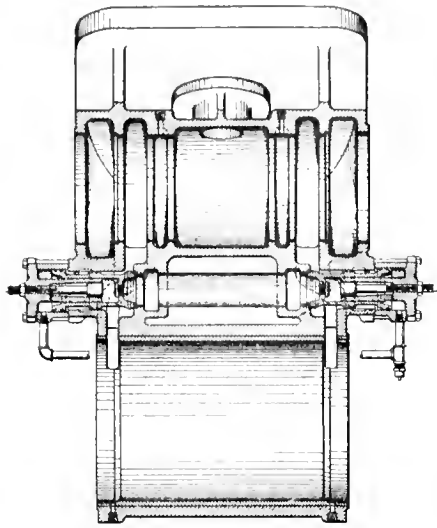
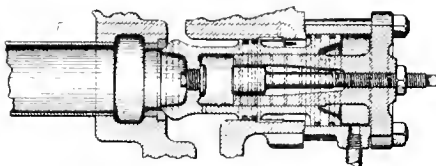
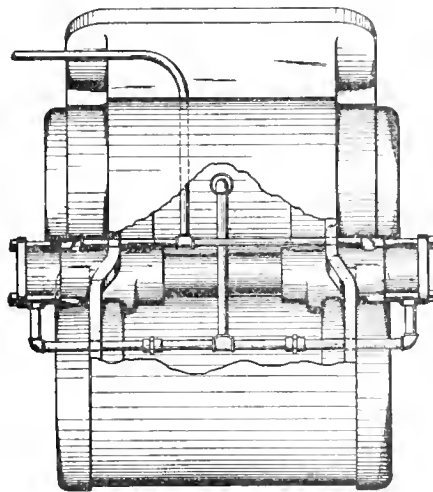

FIG. 1.
FIG. 2.
FIG. 3.
been jointly invented by Mr. H. C. Manchester, Superintendent of Motor Power and engineer of the Lackawanna, and Mr. S. S. Riegel, Mechanical Engineer of the same road. As shown in the accompanying illustrations Fig. 1 is a vertical section through a locomotive engine cylinder and steam chest, Fig. 2 a central section of one of the improved valve mechanisms, and Fig. 3 a side elevation of the engine cylinder and valve mechanism, showing the pipe connections. The invention has for its principal object to provide an improved valve mechanism for automatically opening communication through a by-pass valve between the opposite ends of the engine cylinder when the locomotive is drifting, or running when the throttle is closed, thereby permitting free passage of the contents of the cylinder from one end to the other, and maintaining the piston substantially balanced as to pressure upon its opposite sides in all positions.
to the opposing pressures of the engine valve steam chest, and when the throttle is open the pressure from the steam chest holds the by-pass valve in the closed position, but when the throttle is closed, and the pressure from the steam chest falls, the opposing boiler pressure opens the by-pass valve, and admits a limited quantity of live steam into the cylinders. It will be readily noted that when the locomotive is running the steam admitted through the throttle to the steam chest also passes through the central pipe, as shown in Fig. 3, and acting on the larger annular area of piston head holds the valve closed upon its seat. When the throttle is closed the pressure on this end of the valve is removed, but the boiler pressure still continuing to act on the other face of the differential piston, and the valve is moved away from its seat and opens the by-pass between the opposite ends of the cylinder, thereby balancing the pressures
6. *Can be heated ready for service in one hour.* From the time current is turned on to the time when the metal is at the proper casting temperature, approximately one hour is required. This time element is less than for any other method of heating, and is always positive and constant. This makes it possible to use automatic time switches, as shown in Fig. 2, the clock mechanism of which can be set for one hour previous to the arrival of the operator, when the current will be automatically turned on. The machine will then be ready for use when the operator arrives. This saves considerable time and expense where watchmen are not available, and in cold weather prevents the loss of the operator's time that is apt to occur where other forms of heating than electric are employed.
the principal difference being its shape, which is rectangular instead of round. A cut-away view is shown by Fig. 1. The electrical heating units entirely surround the pot, and the asbestos lining is shown which prevents the heat from reaching the outside casting. The maximum amount of power consumed is 1,650 watts and the minimum 485 watts, the average consumption being about 800 watts. The maximum is used only when the temperature is below the proper working